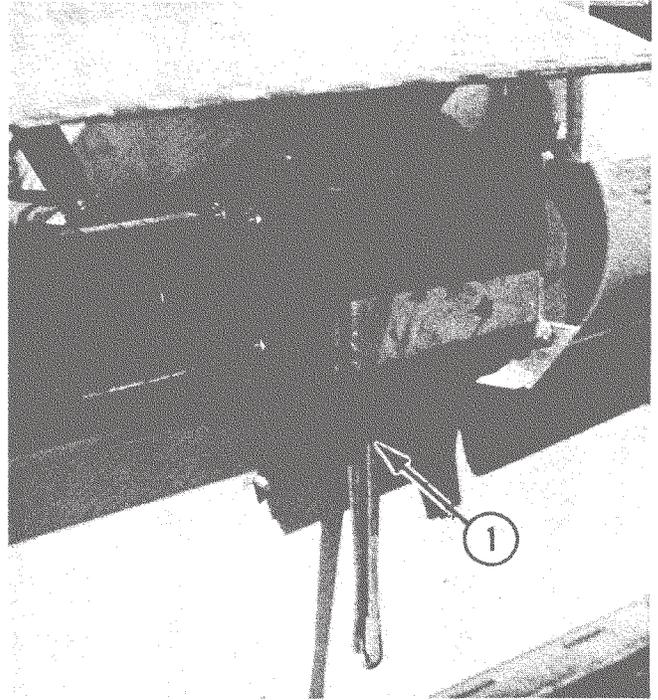

**Figure 26. Front Hydraulic Pump**
a) With engine off remove cap (2) (Figure 26, Ref. 2) and install a 3000 psi gage with necessary adapters to hook to a ¾ JIC (12 MJ) male fitting.
a) With the engine off remove cap (8) (Figure 26) and install a 3000 psi gage with necessary adapters to hook to 1/2" JIC (08 MJ) male fitting.
a) With engine "off", remove cap (4) on pump (Figure 26) and install a 3000 psi gage with necessary adapters to hook up to a 1/2" JIC (08 MJ) male fitting.
e) If the relief valve pressure cannot be reached, the secondary relief valve within the pump may be set below 1950 psi. To verify, and set this relief valve (Figure 26) remove cap (5), loosen locknut (6) and adjust relief valve (7) to 2000 psi (Figure 26) while holding the wheels full left or right.